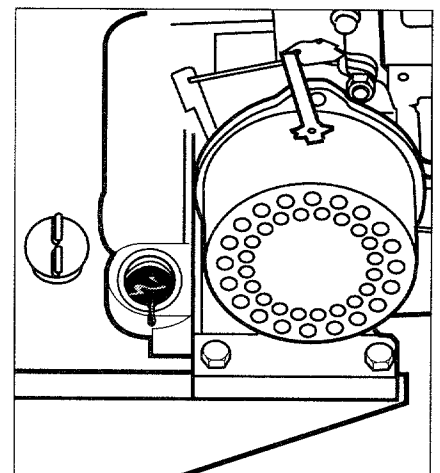

Figure 5-3: Oil Fill Plug location.
(refer to Figure 5-3 below). When operating the tiller, stop the engine and check oil level every 5 operating hours. Running the engine when low on oil can cause expensive damage. Keep oil level at the overflow point in the oil fill hole.
3. Unscrew the oil fill plug from the right side of the engine (see Figure 5-3).